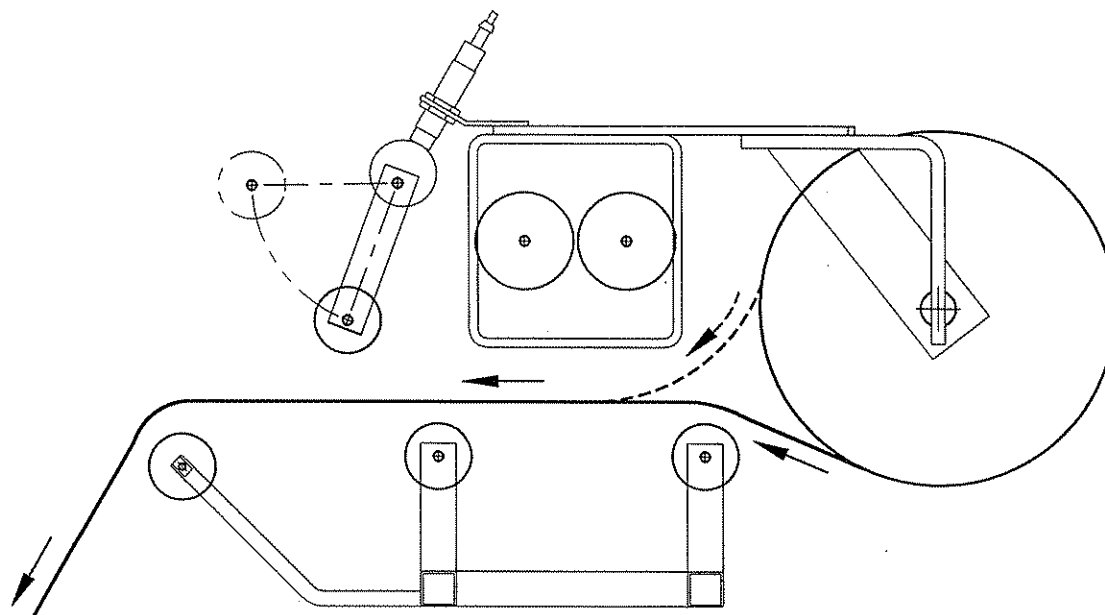

Fig. 1 OPEN CRADLE
6. Pass the roped tail of the film through opening (as shown on the film quick threading pattern DWG. # 418180 Fig. 1)